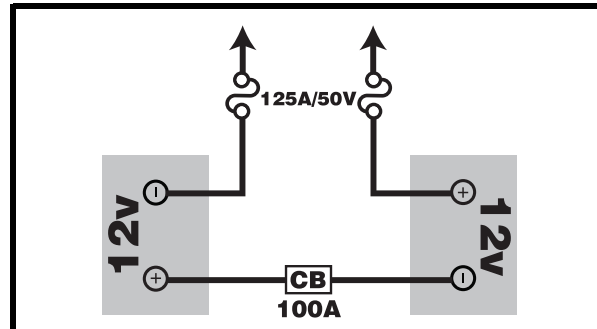

Figure 14A. Battery Wiring Diagram
- Place a new battery in each battery well. Face the battery terminals of each battery away from the seat post. **See figure 14A.**